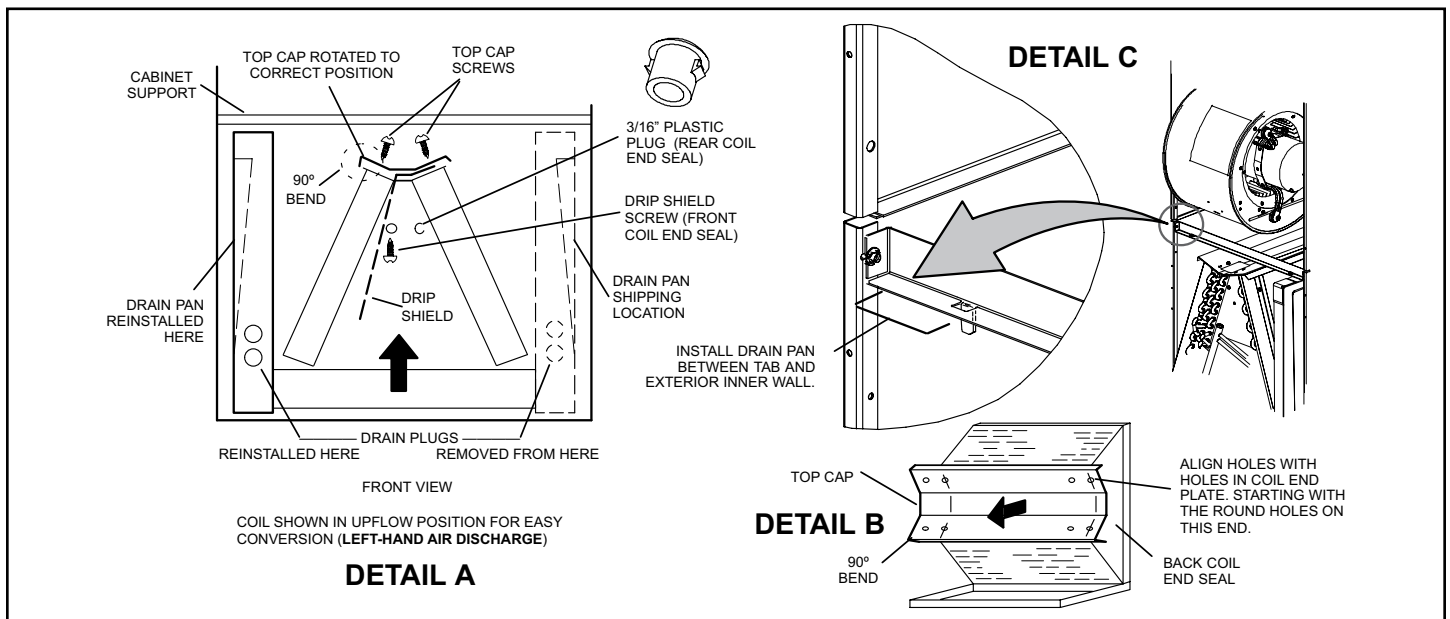

Figure 5. Field Modification for Left-Hand Discharge
5. Remove screws from top cap. Remove drip shield screw located in the center of the back coil end seal as illustrated in Detail A in Figure 5.
8. Rotate top cap 180° front-to-back and align with unused screw holes. Holes must align with front and back coil end plates (see Detail B in Figure 5). The top cap has a 45° bend on one side and a 90° bend on the other. **The 90° bend must be on the same side as the horizontal drain pan** as illustrated in Detail A in Figure 5.